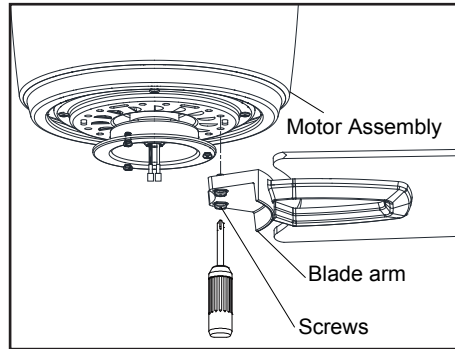

Figure 11
1. Fasten the blade assembly to the motor by inserting the alignment post into the slot on the bottom of the motor and tightening the motor screws. Please note that the motor screws are pre-attached into the blade brackets (Figure 11).